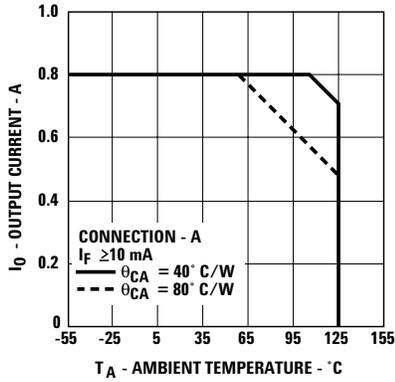
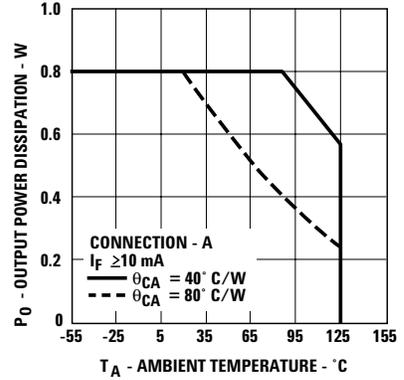

Figure 2. Maximum Average Output Current Rating vs. Ambient Temperature.
Figure 4. Output Power Rating vs. Ambient Temperature.
- For rating, see Figure 4. The output power P_O rating curve is obtained when the part is handling the maximum average output current I_0 as shown in Figure 2.
IN ORDER TO DETERMINE V_{OUT} CORRECTLY, THE CASE TO AMBIENT THERMAL IMPEDANCE MUST BE MEASURED FOR THE BURN-IN BOARDS TO BE USED. THEN, KNOWING θ_{CA} , DETERMINE THE CORRECT OUTPUT CURRENT PER FIGURES 2 AND 4 TO INSURE THAT THE DEVICE MEETS THE DERATING REQUIREMENTS AS SHOWN.
The output on-resistance, R_{ON} , specified in this data sheet, is the resistance measured across the output contact when a pulsed current signal ($I_O = 800 \text{ mA}$) is applied to the output pins. The use of a pulsed signal ($\leq 30 \text{ ms}$) implies that each junction temperature is equal to the ambient and case temperatures. The steady-state resistance, R_{SS} , on the other hand, is the value of the resistance measured across the output contact when a DC current signal is applied to the output pins for a duration sufficient to reach thermal equilibrium. R_{SS} includes the effects of the temperature rise of each element in the thermal model. Rating curves are shown in Figures 2 and 4. Figure 2 specifies the maximum average output current allowable for a given ambient temperature. Figure 4 specifies the output power dissipation allowable for a given ambient temperature. Above 55°C (for $\theta_{CA} = 80^\circ\text{C}/\text{W}$) and 107°C (for $\theta_{CA} = 40^\circ\text{C}/\text{W}$), the maximum allowable output current and power dissipation are related by the expression $R_{SS} = P_O(\text{max}) / (I_O(\text{max}))^2$ from which R_{SS} can be calculated. Staying within the safe area assures that the steady-state junction temperatures remain less than 150°C . As an example, for $T_A = 95^\circ\text{C}$ and $\theta_{CA} = 80^\circ\text{C}/\text{W}$, Figure 2 shows that the output current should be limited to less than 610 mA . A check with Figure 4 shows that the output power dissipation at $T_A = 95^\circ\text{C}$ and $I_O = 610 \text{ mA}$, will be limited to less than 0.35 W . This yields an R_{SS} of 0.94Ω .